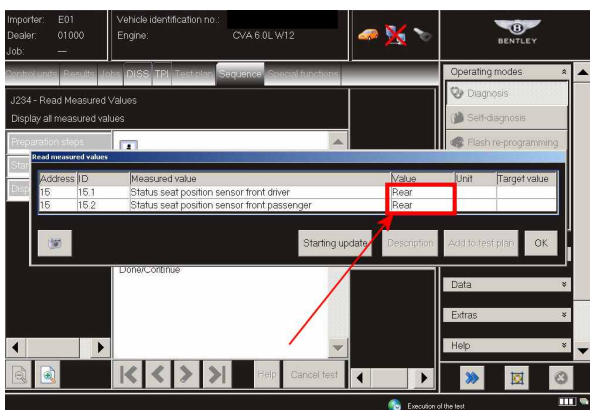

Figure 39
- Referring to Figure 39, the Value status of both seats should now show Rear, on completion of the measured value clarification, follow all on screen prompts to **End of test**